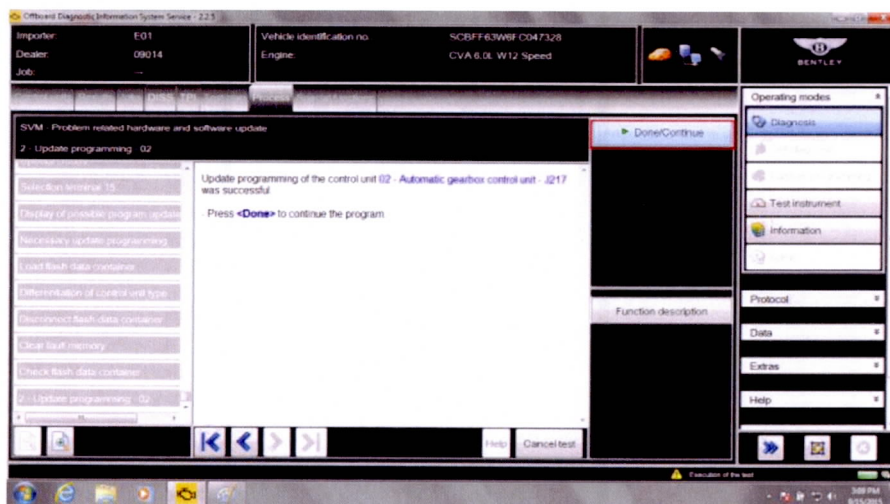

Figure 9
25. Once Done/Continue is selected at the final successful programming screen (see Figure 9) then you are prompted to perform an ignition off/on cycle, to do this: FIRST press Done/Continue then at prompt turn ignition OFF, press Done/Continue then at prompt turn ignition ON